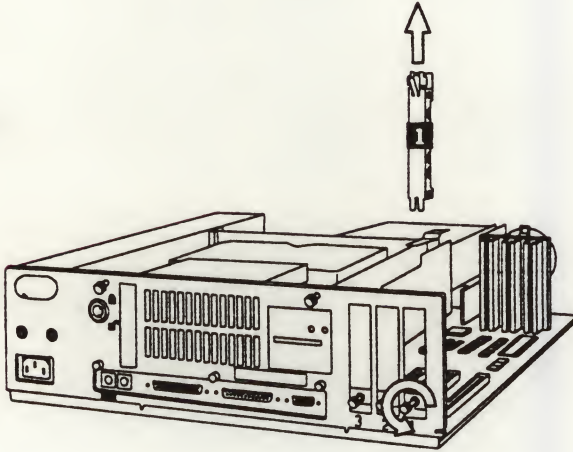

Figure 3-18 Removing a Slot Cover from the Model 50
7. Locate a vacant expansion slot. Loosen the thumb screw securing its slot cover, and remove the slot cover as shown in Figure 3-18.